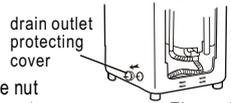

Figure 3
4. Dismount the protecting cover of the drain outlet at the other side as indicated in Figure 3.